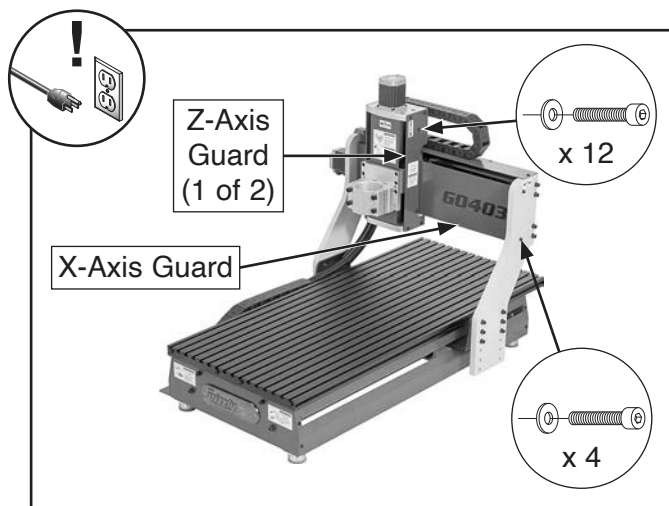

Figure 68. Location of gantry components.
2. Remove (12) cap screws and flat washers securing left and right Z-axis guards on spindle head (see **Figure 68**).
3. Remove (4) cap screws and flat washers securing X-axis guard on gantry, as shown in **Figure 68**.